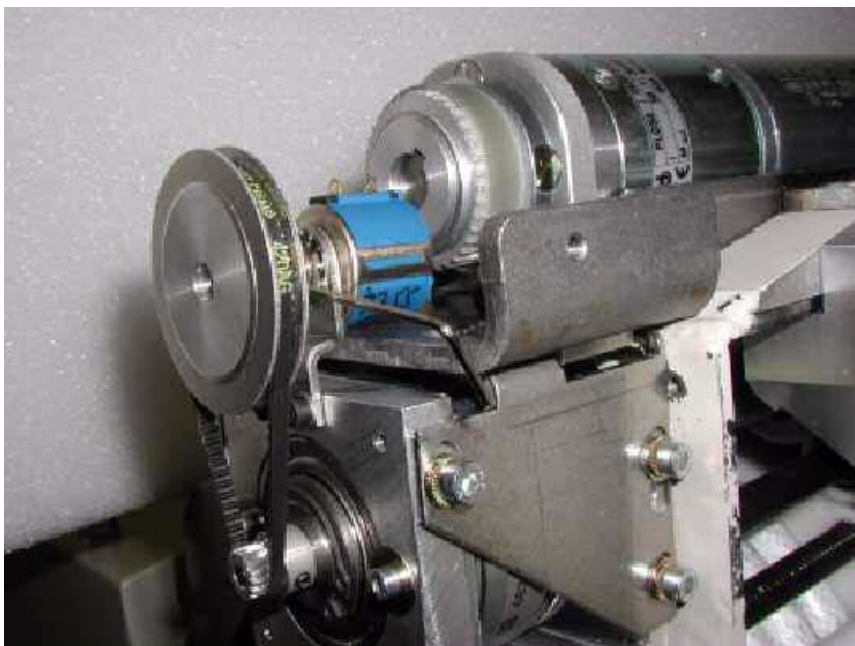

Fig. 34: Belt pulley
- Loosen the Allen screw at the belt pulley (Fig. 34 / p. 36).
- Attach the outside toothed belt (see Fig. 34 / p. 36).
- Secure the belt pulley with the Allen screw (Fig. 34 / p. 36).